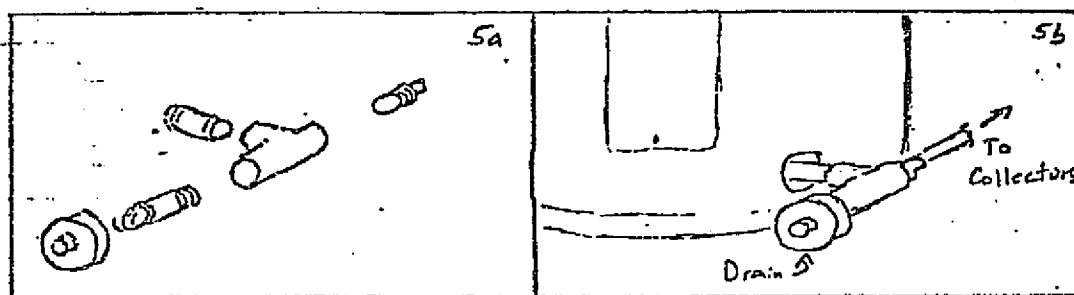

Figure 5: Tank Drain Modification
2.4.9 Make up new drain connections and solar loop supply lines by connecting the drains and a 1/2 x 3/4 copper x male NPT adapter to a 3/4" brass tee. The tee should be connected to a 2" brass nipple and the entire assembly threaded into the drain connections. (See Figure 5.)